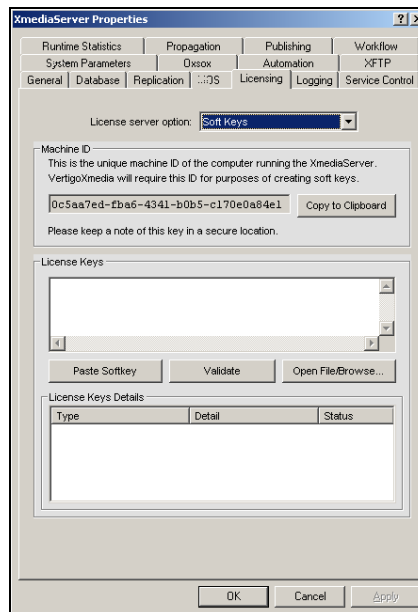

Figure 6-3. The dongle's Machine ID is displayed on the Xmedia Server Control Panel's Licensing page
2. Select the **LICENSING** tab (figure 6-3).